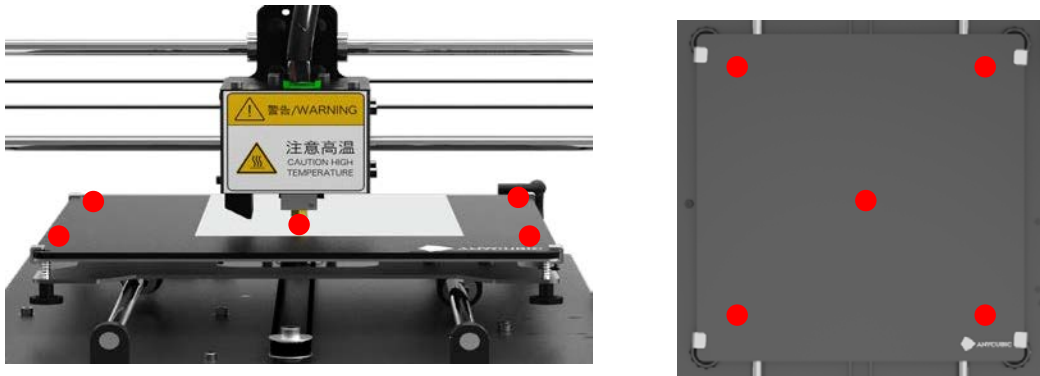

Figure 11
Step 5. Follow step 4 to level the other three corners and the center of the platform, as shown in Fig.11.